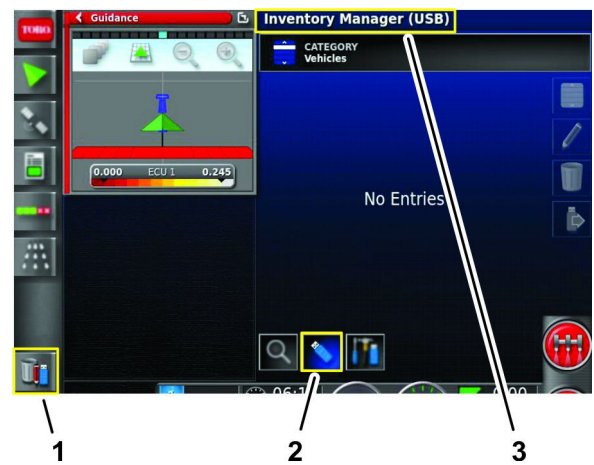

Figure 97
4. If the title at the top of the screen states Inventory Manager (USB), press the Switch View icon (Figure 97).
3. Press the Inventory Manager icon (Figure 97).